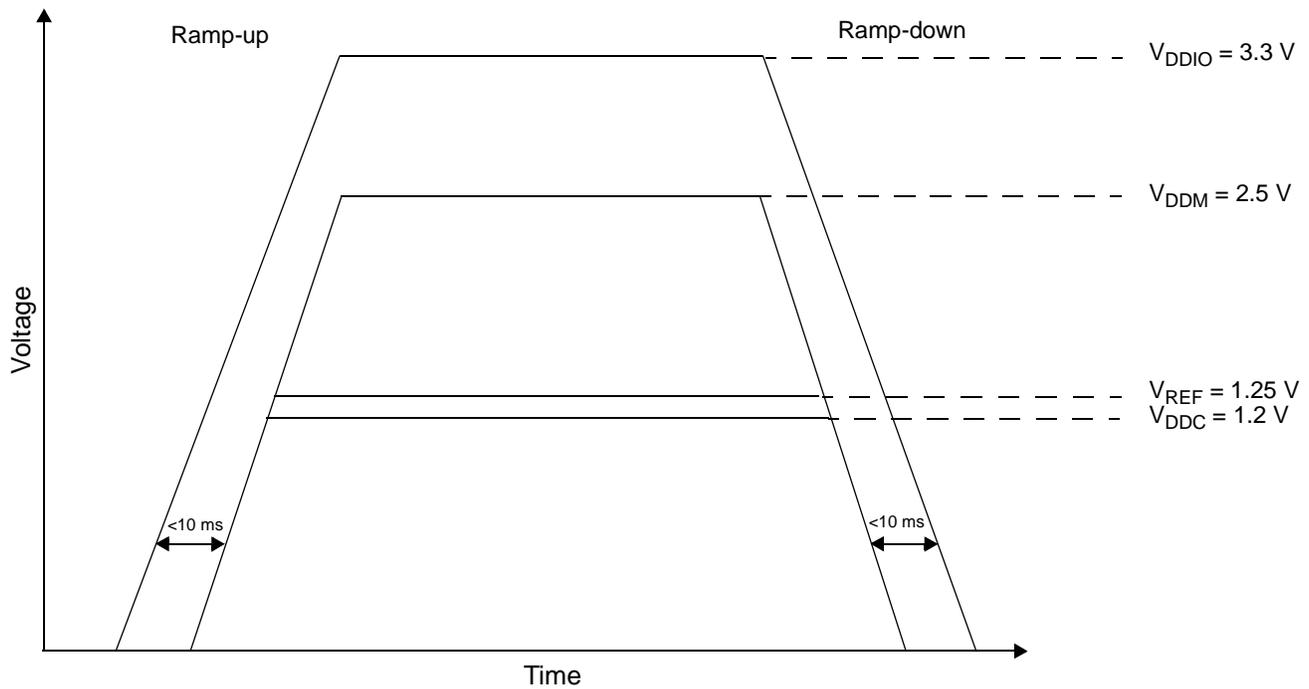

Figure 33. Voltage Sequencing Case 4
- Refer to **Figure 33** for relative timing for Case 4.